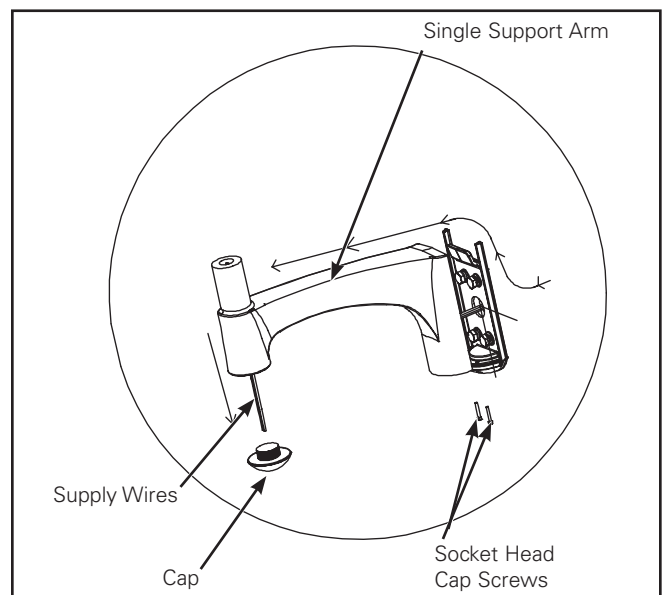

Figure 20.
4. Loosen and take off the cap from single support arm's bottom hole. (Figure 20.)
6. Pull extended supply wires through the arm into the hole where cap was placed (Figure 20.) and hook the arm over installed wall plate.
7. Secure the arm by tightening the two screws on bottom to approximately 17 ft lbs. towards the wall plate. (Figure 20.)